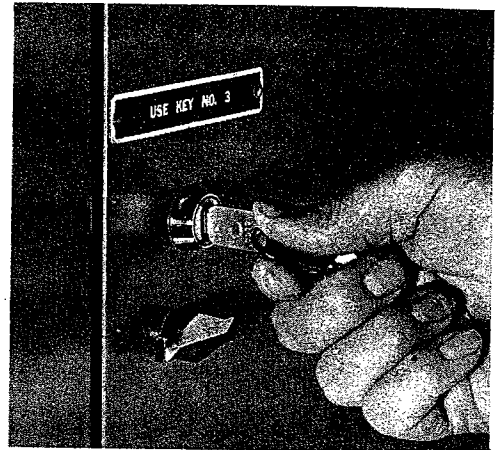

Figure 4. Unlocking Front Doors.
1. To unlock Front Doors, insert Key No.3 into lock on door and unlock. Turn knob and open door. (Figure 4)